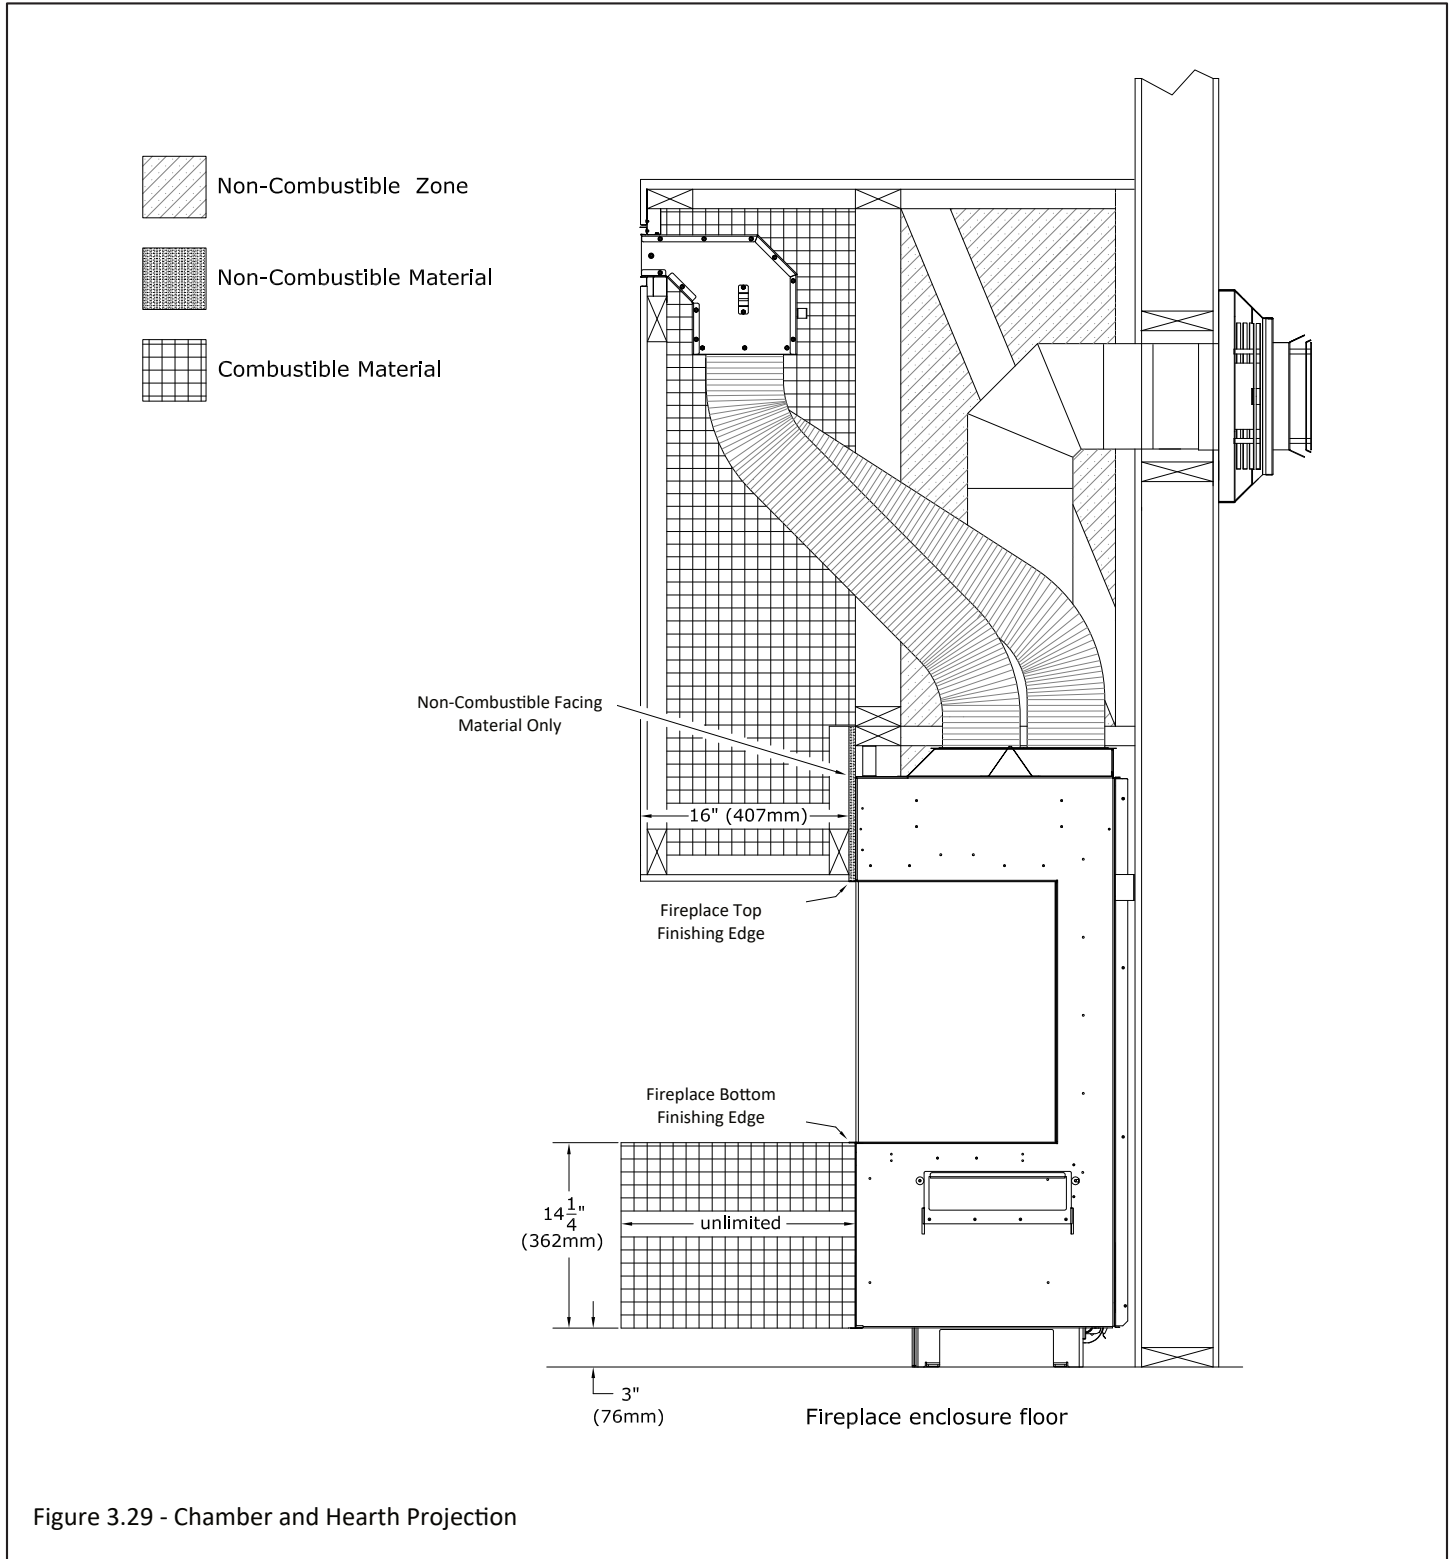

Figure 3.29 - Chamber and Hearth Projection
- **Combustible Chamber Projections:** A maximum of a 16" (406mm) chamber projection can be installed flush at the side and top finishing edge of the fireplace. See Figure 3.29.
Figure 3.29 shows the KZK installed in a 16" front chamber projection. The 16" non-combustible projection would also apply to any side chamber projection.